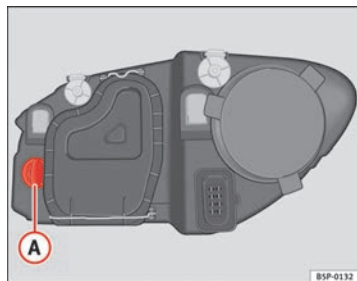

Fig. 184 Turn signal
- Rotate the bulb holder ⇒ fig. 184 **A** to the left and pull.